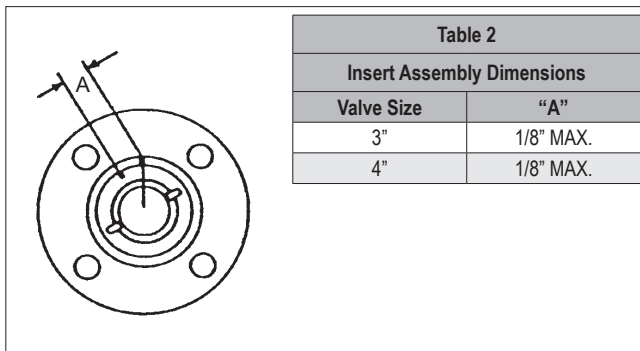

Figure 2
7. Place the second seat (7) into the insert (2) with the proper surface adjacent to the ball.
8. Insert the body gasket (65) into the body, and gently press it into the groove.
9. Using a thread lubricant compatible with the flow medium, screw the insert (2) into the body. The tightening of the insert should be done using the insert field wrench. Tighten the insert the same number of turns as in step 5, until the marks line up according to dimension "A" shown in **Table 2**, and illustrated in **Figure 2**. The insert must be tightened until the spacing between the marks is no more than dimension "A."
10. Place the indicator stop (32) over the stem (5) and down flush with the compression plate (9).